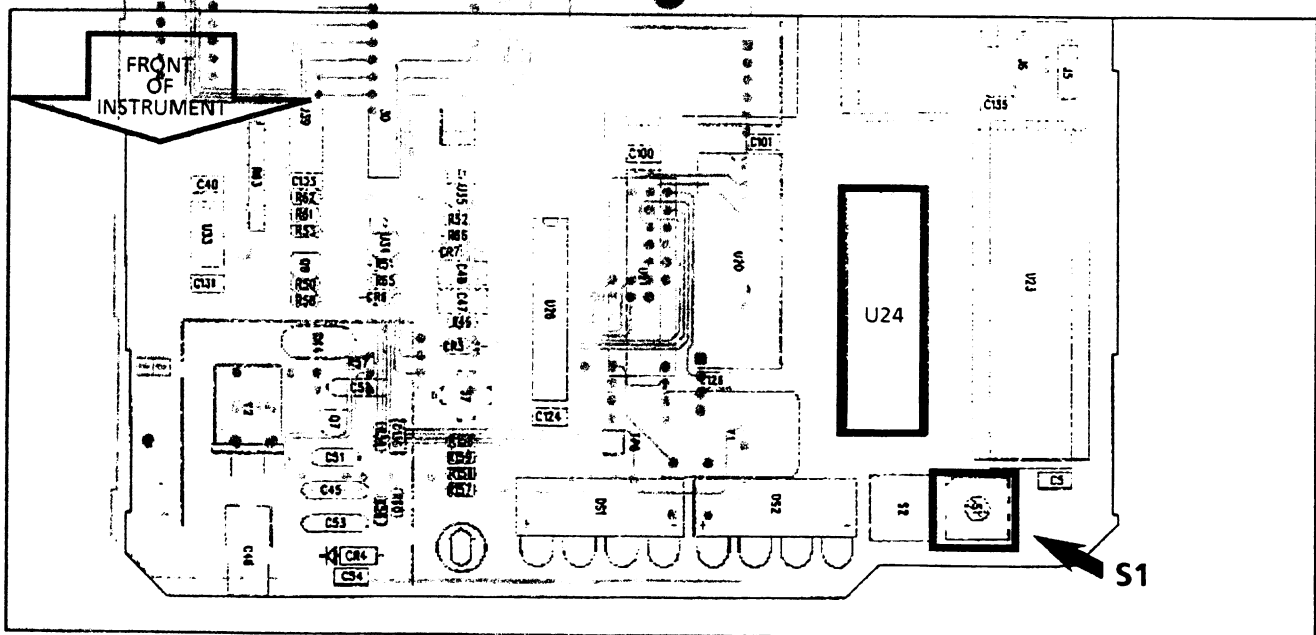

Fig. 3. Partial DAC circuit board (A4) showing location of U24 and S1.
- a. Replace U24 with the 160-7510-05 IC provided in the kit. Refer to fig. 3 for component locations.